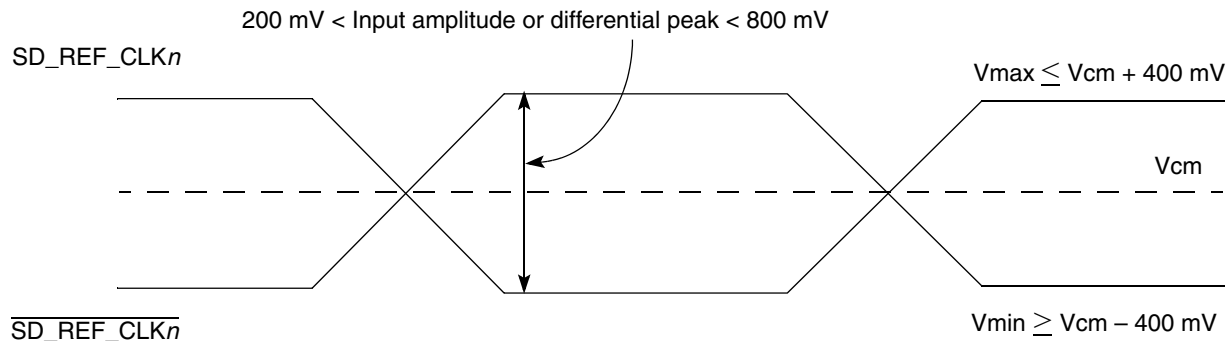

Figure 39. Differential reference clock input DC requirements (external AC-coupled)
- For an external AC-coupled connection, there is no common mode voltage requirement for the clock driver. Because the external AC-coupling capacitor blocks the DC level, the clock driver and the SerDes reference clock receiver operate in different common mode voltages. The SerDes reference clock receiver in this connection scheme has its common mode voltage set to SGND. Each signal wire of the differential inputs is allowed to swing below and above the common mode voltage (SGND). Figure 39 shows the SerDes reference clock input requirement for AC-coupled connection scheme.